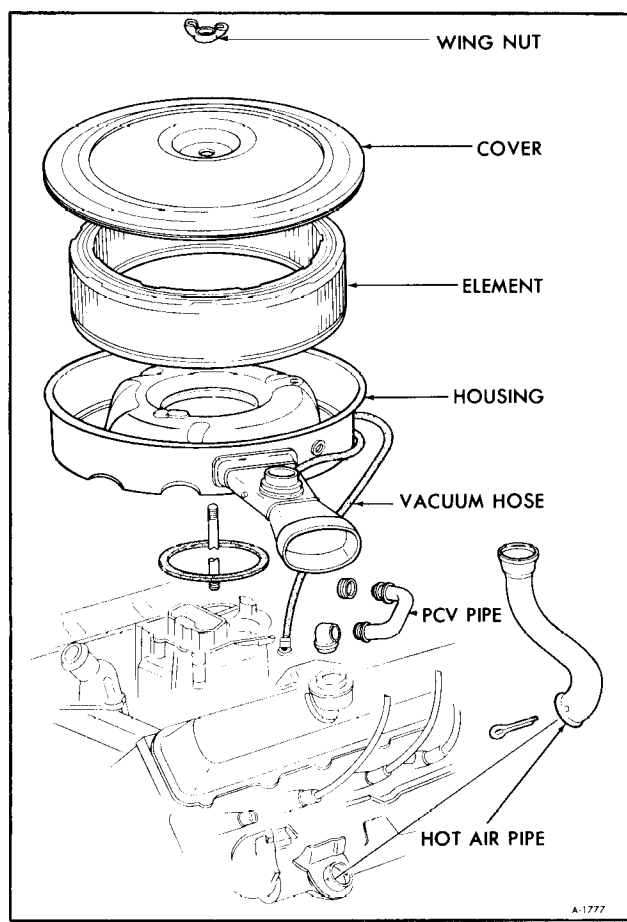

Figure 34-Air Cleaner
3. Disconnect P.C.V. pipe from the air cleaner housing. See Figure 34.
4. Lift air cleaner housing off carburetor high enough to reach underneath it and disconnect the vacuum hose from the intake manifold. See Figure 34.